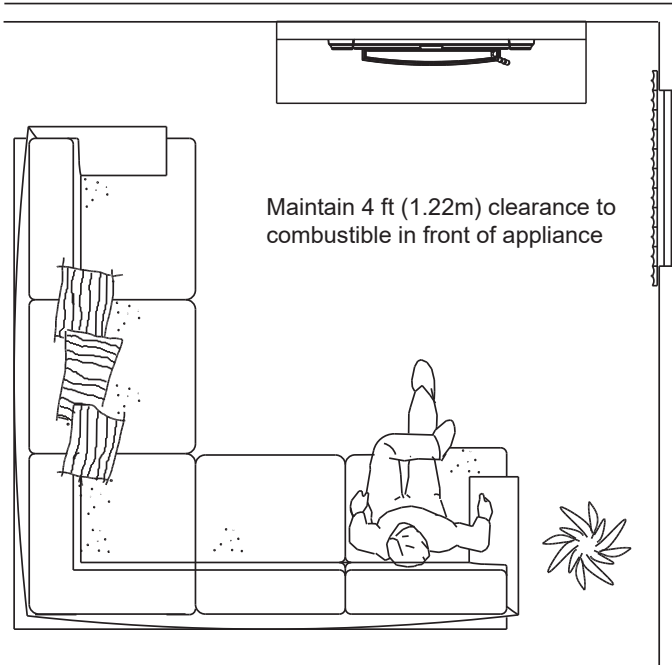

Figure 17.1
- Do NOT place combustible objects within 4 ft (1.2 m) of the front of appliance (**Figure 17.1**).